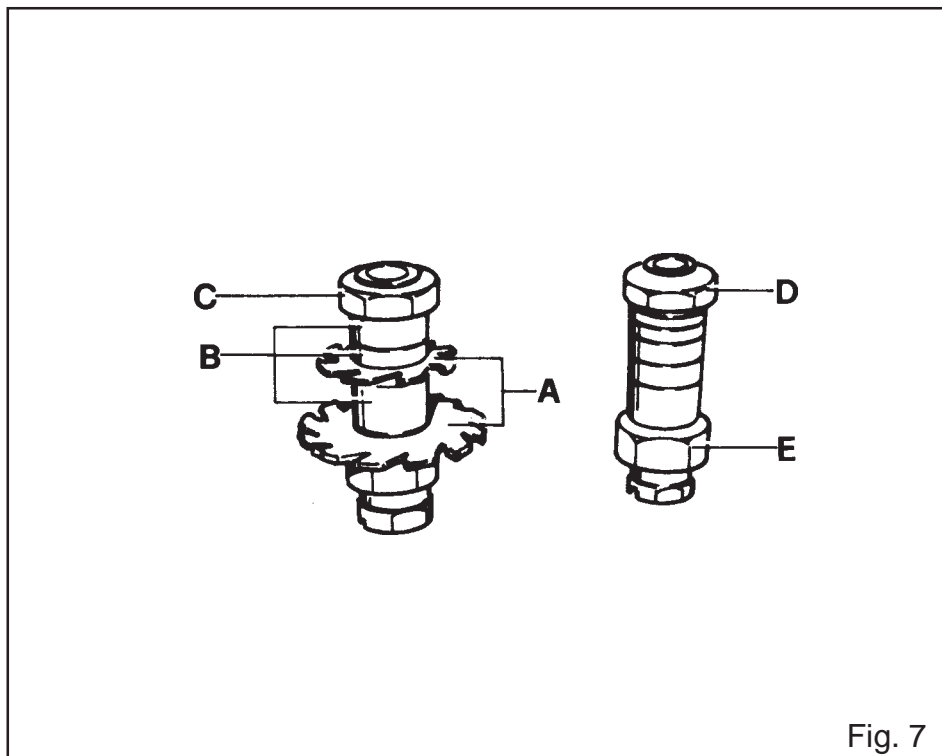

Fig. 7
Cutters A ( Fig.7 ) and their space sleeves B ( Fig.7) are assembled on the special cutter block C ( Fig.7 ) is equipped with the machine .
- Loosen nut D ( Fig.7 ) turning it in clockwise direction
- Turn nut E ( Fig.7 ) in clockwise direction to pull down the whole cutter group or in anti-clockwise direction to lift it up
- Block nut D ( Fig.7) turning it in anti-clockwise direction.